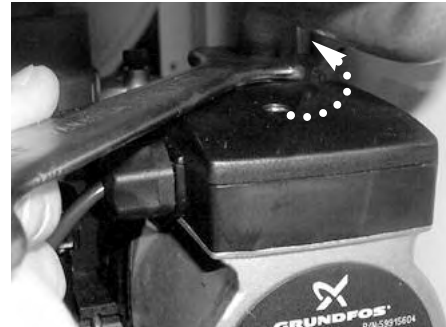

Fig. 89
6. Unscrew the pump nut (see Fig. 89);